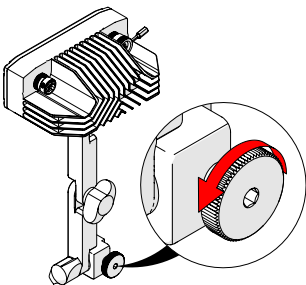

Fig. 20 - Loosen knob
3. Loosen the crawler mount thumb screw (Fig. 20).